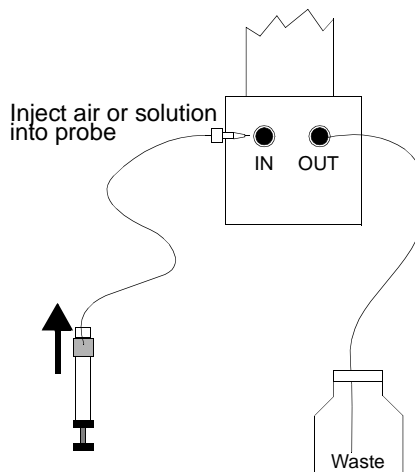

Figure 99. Injecting Solution into a Microflow Probe
2. Disconnect the high-pressure air valve from the Microflow probe OUT connector. Connect a waste line to the probe OUT connector. See Figure 99.